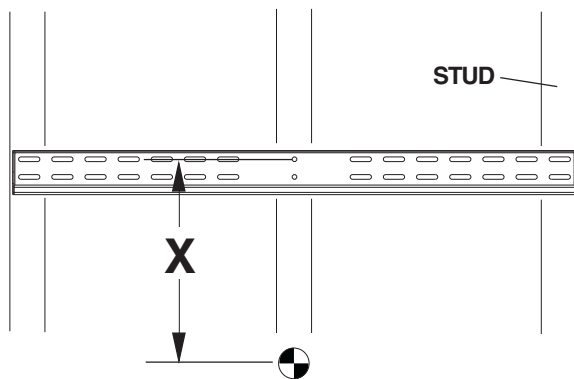
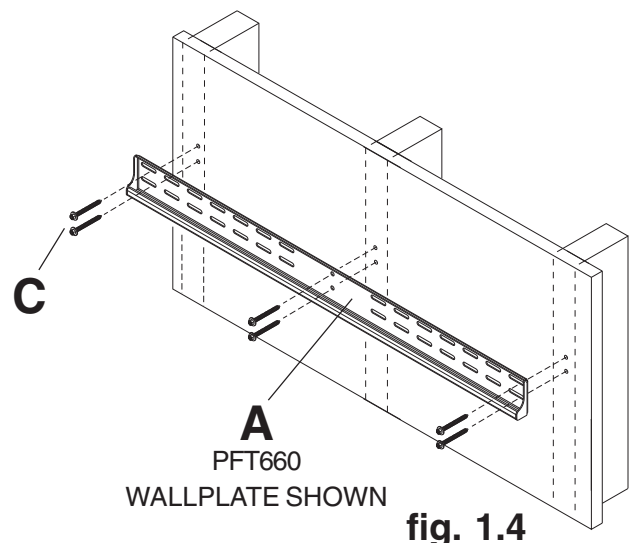

fig. 1.3
fig. 1.4
1 Wall plate (A) can be mounted to three studs that are 16" apart. Use a stud finder to locate the edges of the studs. Use of an edge-to-edge stud finder is highly recommended. Based on their edges, draw a vertical line down each stud's center. Place wall plate on wall as a template. The top mounting slots should be located above the desired screen center as shown in figure 1.3. **Note:** Screen tilt will determine wall plate location. Level plate, and mark the center of the six mounting holes. Make sure that the mounting holes are on the stud centerlines. Drill six 5/32" (4 mm) dia. holes 2-1/2" (65 mm) deep. Make sure that the wall plate is level, secure it using six #14 x 2.5" wood screws (C) as shown in figure 1.4.
1 Make sure that wall plate (A) is level, use it as a template to mark two mounting holes. The top mounting hole should be above the desired screen center as shown in figure 1.1 on page 4 or figure 1.3 on page 5. **NOTE:** Screen tilt will determine wall plate location. Drill two 1/4" (6 mm) dia. holes to a minimum depth of 2.5" (64 mm). Insert anchors (D) in holes flush with wall as shown (right). Place wall plate over anchors and secure with #14 x 2.5" screws (C). Level, then tighten all fasteners.